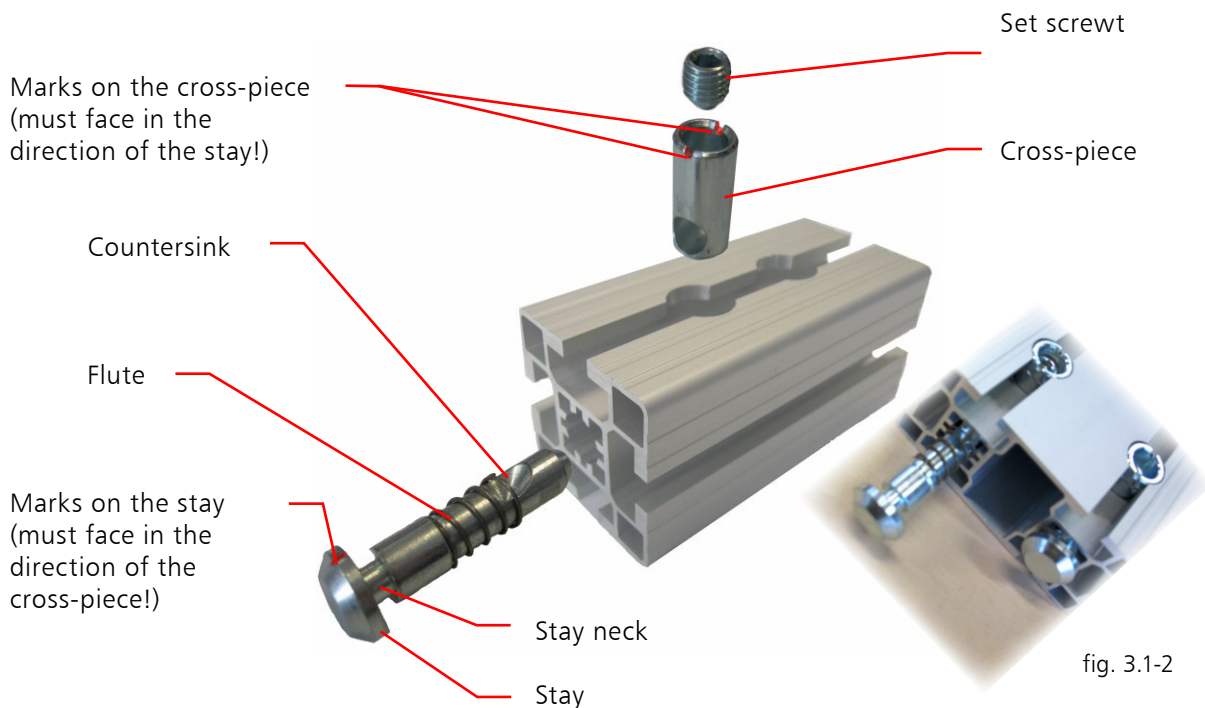
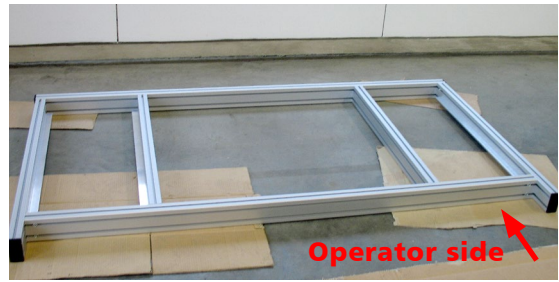
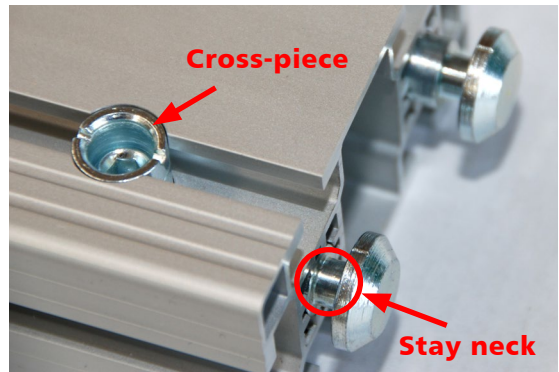

fig. 3.1-2
fig. 3.1-3
fig. 3.1-4
Step ❷ Before starting to assemble the frame base **A1** (fig. 3.1-3), attach all the profile connectors to the locations provided for them in the frame base profiles. There should be 4 profile connectors remaining for the side stands of the universal wall. Please ensure that the countersink faces the cross-piece. This is indicated by the marks on the stay (fig. 3.1-2). The set screw in the cross-piece is now screwed in slightly with the appropriate Allen key. In so doing, the stay is pushed automatically into the profile. It is important that the neck of the stay is still visible (fig. 3.1-4) in order that it can be inserted later into the guide grooves (fig. 3.1-5). When screwing it in, it may be necessary to press the stay lightly against the cross-piece.
Step ⑨ Set up the frame base **A1** on the floor space so that the projecting end of the frame base faces the operator side (**fig. 3.1-14**). A level floor surface is crucial in order that it doesn't stand crookedly. Before starting to assemble the universal wall, attach all the profile connectors to the locations provided for them in the side stands and frame parts. The 4 profile connectors remaining when assembling the frame base are for the attachment of the side stands. Please ensure that the countersink faces the cross-piece in this case as well. This is indicated again by the marks on the stay (**fig. 3.1-2**). The set screw in the cross-piece is now screwed in slightly with the appropriate Allen key. In so doing, the stay is pushed automatically into the profile. It is important that the neck of the stay is still visible in order that it can be inserted later into the guide grooves (**fig. 3.1-15**). When screwing it in, it may be necessary to press the stay lightly against the cross-piece.